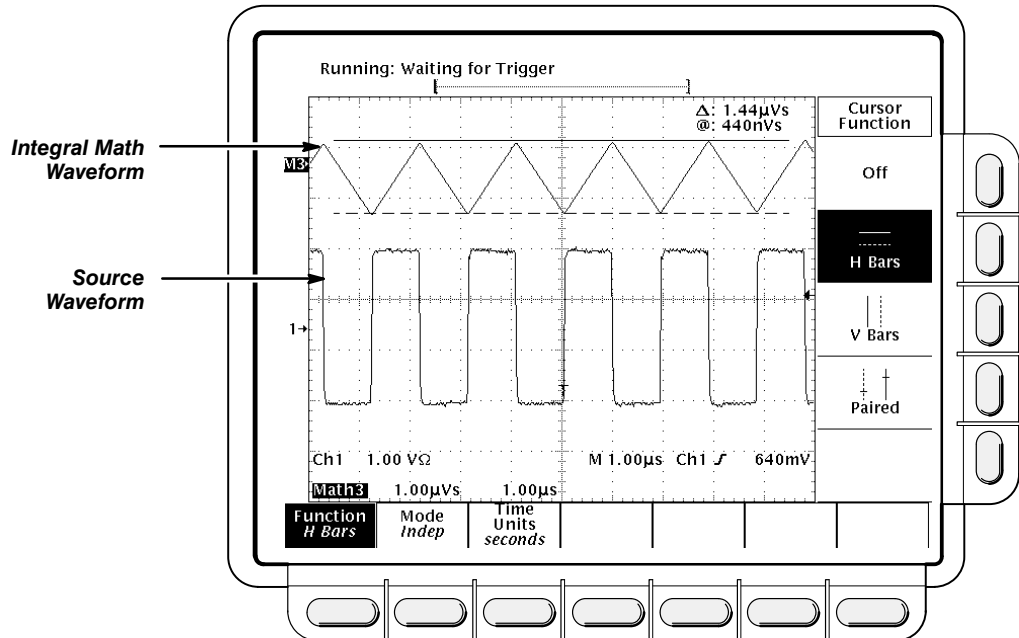

Figure 3-78: H Bars Cursors Measure an Integral Math Waveform
- Read the integrated voltage over time between the cursors in volt-seconds from the Δ : readout. Read the integrated voltage over time between the selected cursor and the reference indicator of the math waveform from the @: readout. See Figure 3-78.